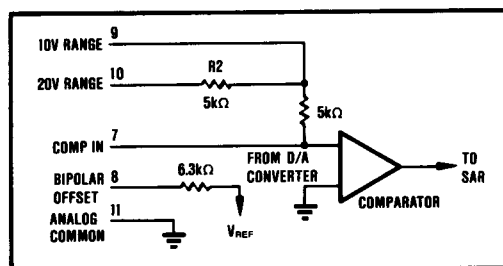
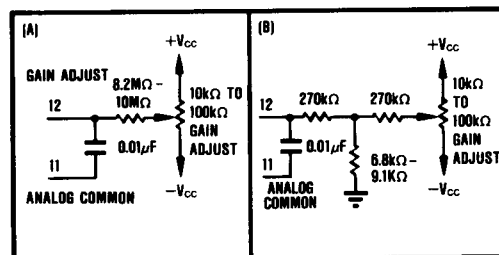

FIGURE 3. ADC804 Input Scaling Circuit.
FIGURE 6. Two Methods of Connecting Optional Gain Adjust.
input range as indicated by Table II. The input circuit architecture is illustrated in Figure 3. Use of external padding resistors to modify the factory-set input ranges (such as addition of a small external input resistor to change the 10V range to a 10.24V range) will require matching of the external fixed resistor values to individual devices, due to the large tolerance of the internal input resistors. Alternatively, the gain range of the converter may be easily increased a small amount by use of a low temperature coefficient potentiometer in series with the analog input signal or by decreasing the value of the gain adjust series resistor in Figure 6.
**GAIN**—Connect the gain adjust potentiometer as shown in Figure 6. Set the input voltage to the nominal plus full-scale value minus  $3/2$ LSB. Once again referring to Table 1, this value is  $+10V - 7.32mV$  or  $+9.99268V$  for the  $-10V$  to  $+10V$  range. Adjust the gain potentiometer until the output code is alternating between  $000_H$  and  $001_H$  with an approximate 50% duty cycle. As in the case of offset adjustment, this procedure sets the converter end-point transition to a precisely known value.